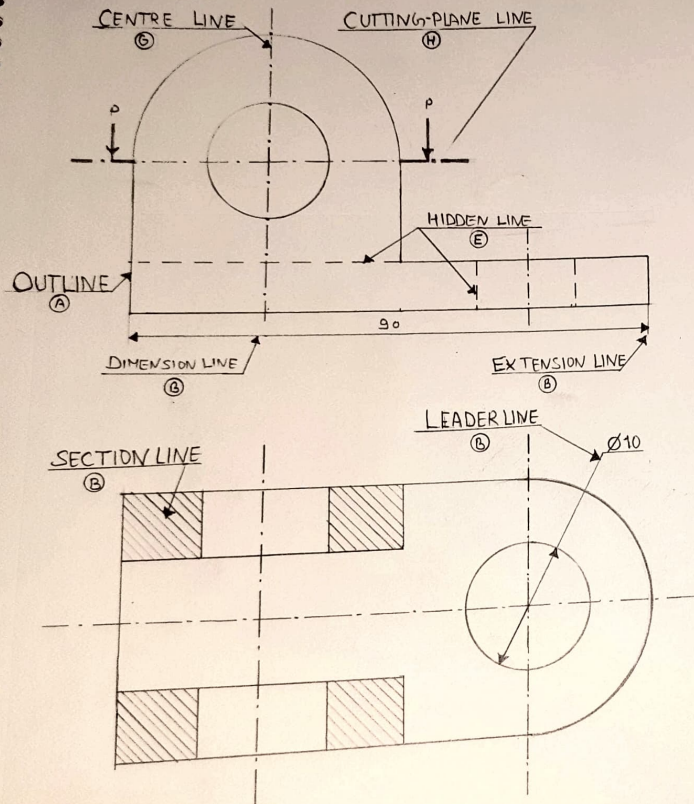
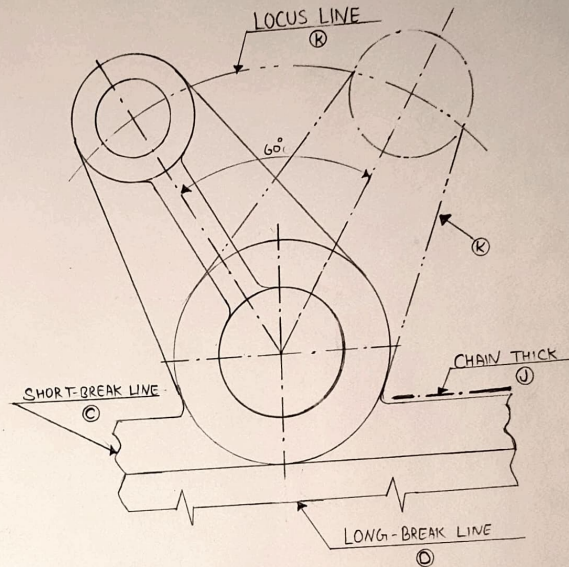

FIG. 3-2
FIG. 3-3
- (1) Outlines (A): Lines drawn to represent visible edges and surface boundaries of objects are called outlines or principal lines. They are continuous thick or wide lines [Fig. 3-2].
- (3) Dimension lines (B): These lines are continuous thin lines. They are terminated at the outer ends by pointed arrowhead touchings the outlines, extension lines or centre lines (Fig. 3-2).
- (4) Extension or projection lines (B): These lines also are continuous thin lines. They extend by about 3 mm beyond the dimension lines (Fig. 3-2).
- (5) Construction lines (B): These lines are drawn for constructing figures. They are shown in geometrical drawings only. They are continuous thin light lines.
- (6) Hatching or section lines (B): These lines are drawn to make the section evident. They are continuous thin lines and are drawn generally at an angle of 45° to the main outlines of the section. They are uniformly spaced about 1 mm to 2 mm apart (Fig. 3-2).
- (9) Short-break lines (C): These lines are continuous, thin and wavy. They are drawn freehand and are used to show a short break, or irregular boundaries (fig. 3-3).
- (10) Long-break lines (D): These lines are thin ruled lines with short zigzags within them. They are drawn to show long break (fig. 3-3).
- (11) Hidden or dotted lines (E or F): Interior or hidden edges and surfaces are shown by hidden lines. They are also called dotted lines. They are of medium thickness and made up of short dashes of approximately equal lengths of about 2 mm spaced at equal distances of about 1 mm. When a hidden line meets or intersects another hidden line or an outline, their point of intersection or meeting should be clearly shown (fig. 3-2).
- (12) Centre lines (G): Centre lines are drawn to indicate the axes of cylindrical, conical or spherical objects or details, and also to show the centres of circles and arcs. They are thin, long, chain line composed of alternately long and dot spaced approximately 1 mm apart. The long dashes are about 9 to 12 mm. Centre lines should extend for a short distance beyond the outlines to which they refer. For the purpose of dimensioning or to correlate the views they may be extended as required. The point of intersection between two centre lines must always be indicated. Locus lines, extreme positions of movable parts and pitch circles are also shown by this type of line (fig. 3-2 and fig. 3-3).
- (13) Cutting-plane lines (H): The location of a cutting plane is shown by this line. It is a long, thin, chain line, thick at ends only (fig. 3-2).
- (14) Chain thick (J): These lines are used to indicate special treatment on the surface.
- (15) Chain thick double-dots (K): This is a chain thin double-dot line.